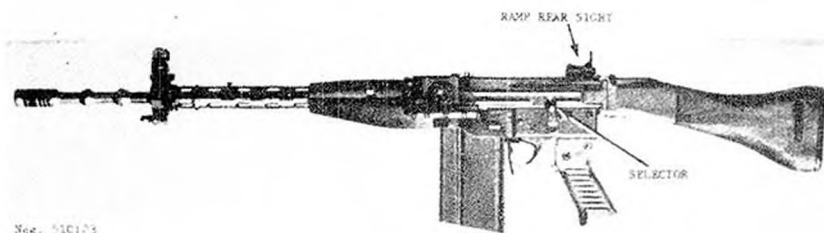
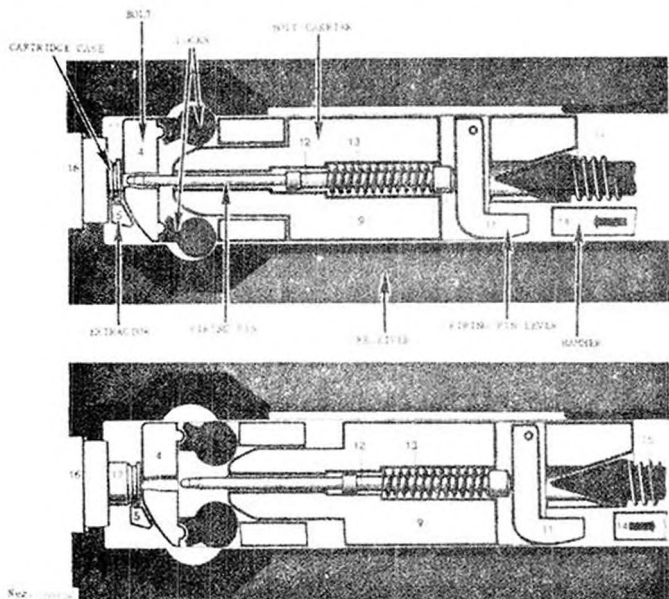

Figure 124. Swiss SIG 510-4 assault rifle.
Figure 127. StG 57 bolt functioning.
South America. There is little military use of this rifle except by the Swiss Army; however, the SIG 510's are offered for commercial sales in both selective-fire and in semiautomatic fire models. The StG 57 (fig 122 and 123) is easily identified by its angular, ungraceful appearance; long, perforated tubular barrel jacket; folding sights; small plastic forearm; and plastic butt. Also, the Swiss cross is stamped over its chamber. The commercial SIG 510's are similar to the StG 57 but can be identified by their larger wood forearm (fig 124 and 125).
a. Load the magazine as described in paragraph 128a. Rotate the selector (fig 124) to its vertical (safe) position, aligned with the letter S. Hold the magazine so that the lips on its front edge can be mated to the recess in the receiver (fig 127); mate the lip with recess; then pull the bottom of the magazine rearward until the magazine catch snaps into place.
b. Move the front and rear sights to their erect position (fig 123) if an StG 57 or if equipped with folding sights. Adjust this model for range by rotating the knurled drum (fig 123) until the number corresponding to the range in hundreds of meters is aligned with the index work. If the rifle is a SIG 510 equipped with non-folding sights (fig 124), press the lock (fig 124) and move the sight along the base until the number on the sight base that corresponds to the range in hundreds of meters is aligned with the sight.
a. The StG 57 and SIG 510 function identically, and are both delay blowback operated. When the trigger is pressed, the hammer is released to strike the firing pin lever and fire the cartridge. The pressure generated during firing drives the cartridge case rearward, and the case (part 17, fig 127), in turn, attempts to drive the bolt (part 4, fig 127) rearward. The rearward movement of the bolt is, however, delayed because the two rounded locks (part 3, fig 127) are seated in recesses in the receiver and held there by the cam nose of the bolt carrier (part 9, fig 127). The rearward thrust of the bolt causes the locks to attempt to cam out of their recesses and as they do, their pressure against the cam nose of the bolt carrier forces the heavy carrier rearward. The delay caused by the locks coming out of their seats and forcing the heavy carrier rearward allows sufficient time for the bullet to leave the barrel for the gas pressure to fall to a safe level.
b. The bolt carrier, however, has been given sufficient momentum to travel fully to the rear. As it does, it compresses the driving spring and rocks the hammer rearward. The extractor (part 5, fig 127 and 128) pulls the fired cartridge case out of the chamber and holds it to the bolt face. As the bolt nears the end of its travel, the ejector strikes a cam surface in the receiver (fig 129) and suddenly pivots on its pin. This throws the fired case out through the ejection port (fig 129).
d. The hammer (part 14, fig 127, 129, and 130) when released is driven by its spring (fig 130) and strikes the end of the firing pin lever (part 11, fig 122 and 130). This lever pivots on its pin and drives the firing pin (part 12, fig 127) forward to strike the cartridge primer.